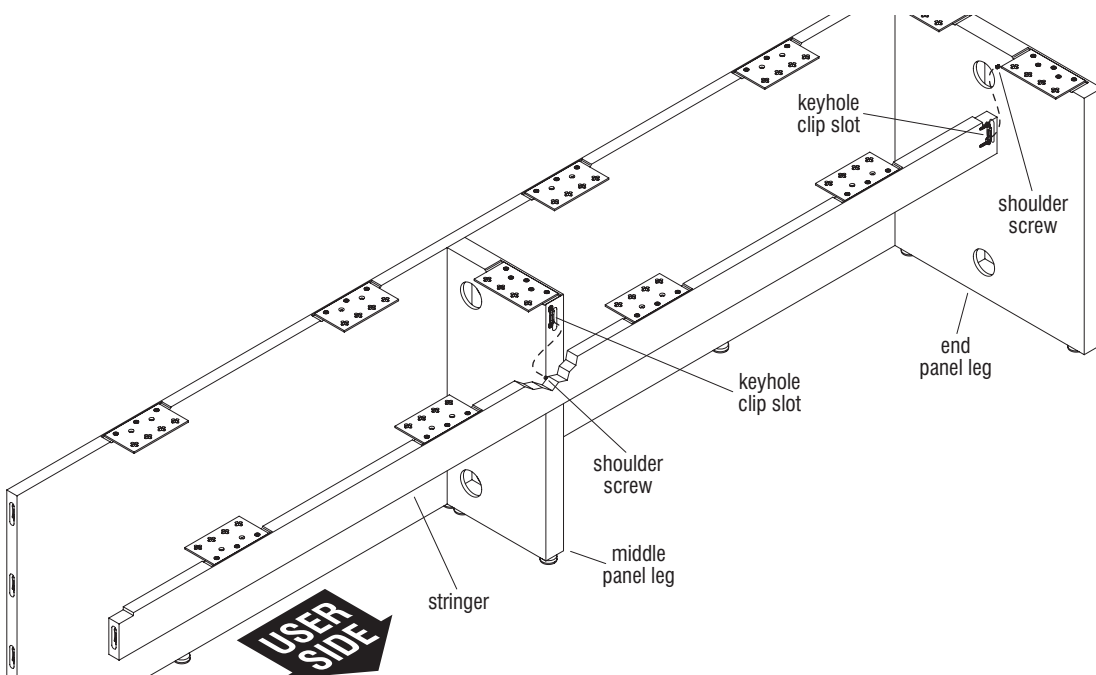

Figure 12
8. Orient the stringer so the overhang of the mounting brackets are facing the back, "non-user side" of the table. Take the end of the stringer and align the larger opening of the keyhole clip slot with the corresponding shoulder screw installed to the inside of the end panel leg, closer to the "user side" (Figure 12 & Detail P). Press the stringer end against the side of the panel leg, slightly elevated so the head of the shoulder screw on the end panel leg rests in the larger opening of the keyhole slot on the end of the stringer and also, the head of the shoulder screw in the middle of the stringer rests in the larger opening of the keyhole slot on the middle panel leg (Figure 12, Details Q & R). Next, press the stringer down at both points to engage the screws with the smaller end of the keyhole slots (Detail S).